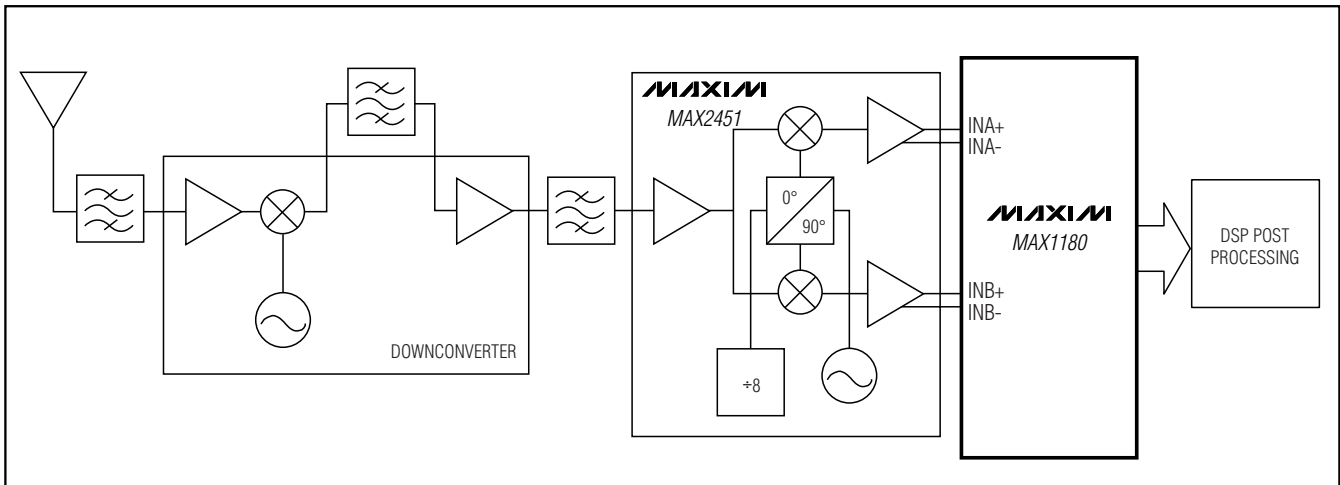

Figure 8. Typical QAM Application, Using the MAX1180
quadrature (Q) carrier component, where the Q component is 90 degrees phase-shifted with respect to the in-phase component. At the receiver, the QAM signal is divided down into its I and Q components, essentially representing the modulation process reversed. Figure 8 displays the demodulation process performed in the analog domain, using the dual-matched, 3V, 10-bit ADCs, MAX1180 and the MAX2451 quadrature demodulators, to recover and digitize the I and Q baseband signals. Before being digitized by the MAX1180, the mixed-down signal components may be filtered by matched analog filters, such as Nyquist or Pulse-Shaping filters which remove any unwanted images from the mixing process, enhances the overall signal-to-noise (SNR) performance, and minimizes intersymbol interference.